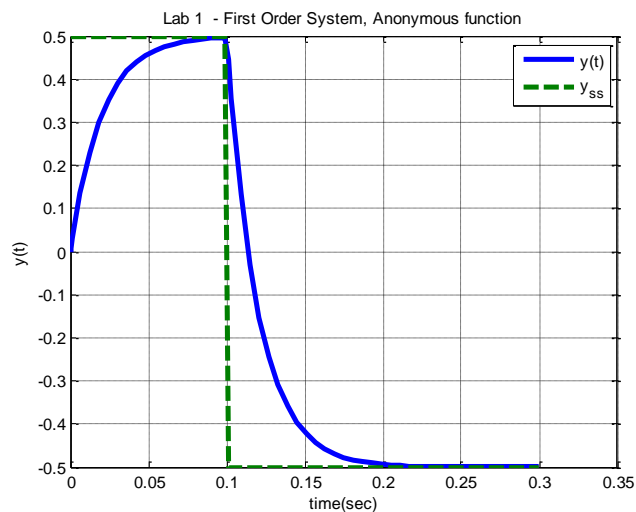

Figure 20: Step Response with an Anonymous Function
5. The first piece of code after the comment is the definition of $x(t)$. The second line of code tells MATLAB to generate an array of time values for 0 to T_f , and use 300 evenly spaced points. The third line of code puts the data in the correct form for Simulink. The apostrophe means to take the transpose, the brackets $[]$ mean form an array, and $x(t)$ tells MATLAB to evaluate the function x at the specified times t . (Note that you might feel that it would be easier to use MATLAB's Heaviside function here, but sometimes Simulink complains, since MATLAB defined the Heaviside function evaluated at zero to be not a number (NAN).) Comment out the axis command and run your code, you should get a graph like Figure 20.